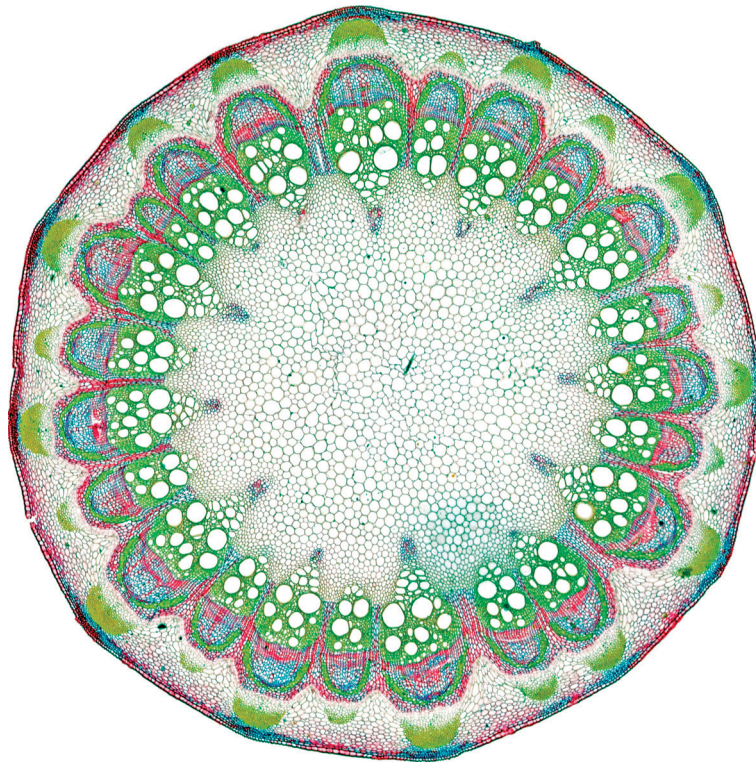
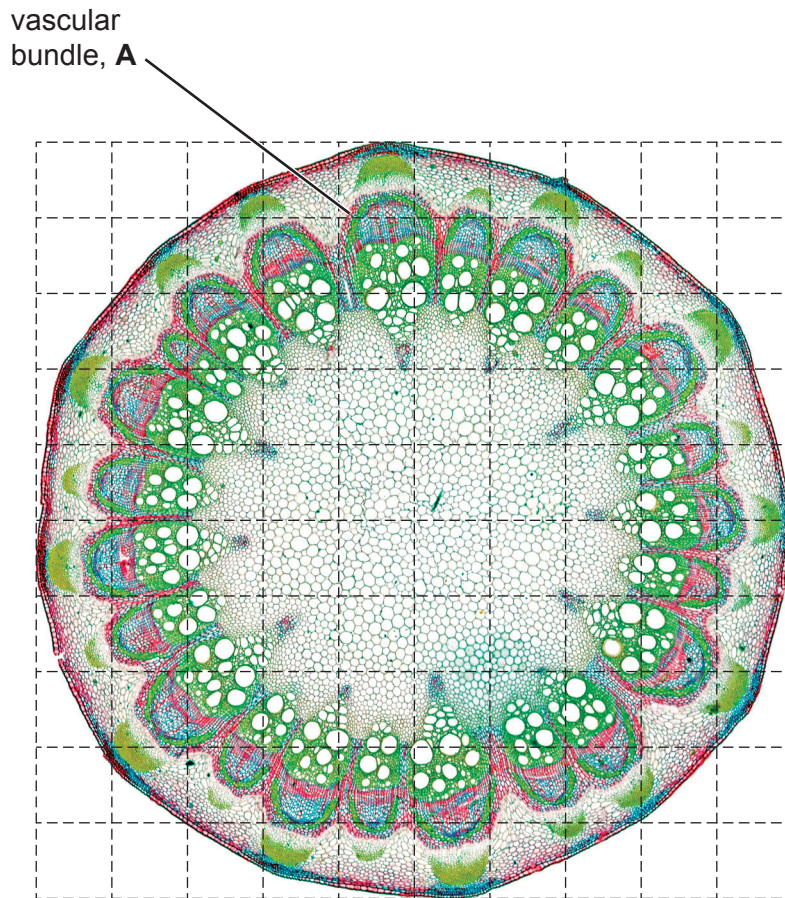

Fig. 2.1
Fig. 2.2
- (b) Fig. 2.1 is a photomicrograph of a stained transverse section through a plant organ of a different type of plant.
Identify the observable differences between the section on **L1** and the section in Fig. 2.1.
(c) Fig. 2.2 is a photomicrograph of the same section that is in Fig. 2.1.
You will need to use the grid to find the area of the vascular bundle labelled **A** and the total area of the plant organ section in Fig. 2.2.
- (ii) Use the grid to estimate the area of the vascular bundle labelled **A** and the total area of the plant organ section in Fig. 2.2.